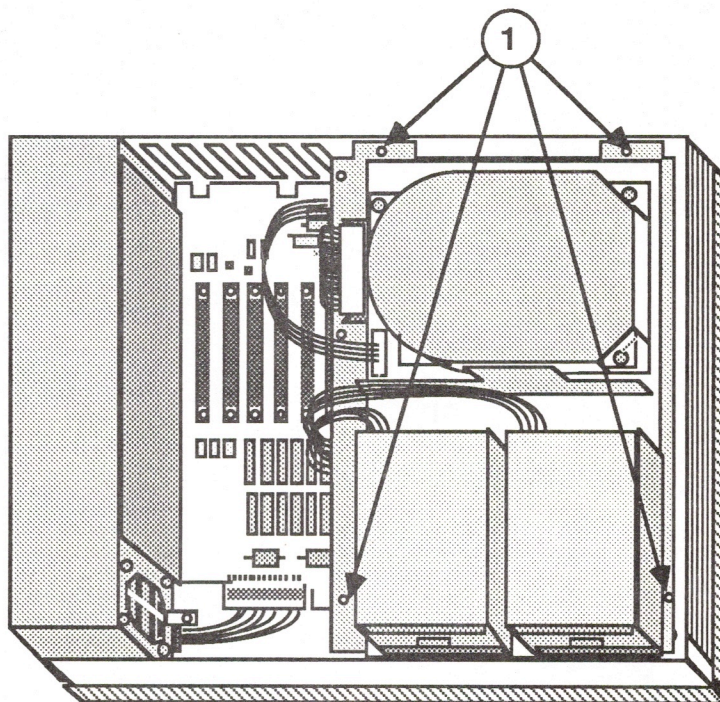

FIGURE 2
2. Remove the four Phillips screws that hold the drive mount in position (Figure 2, #1).